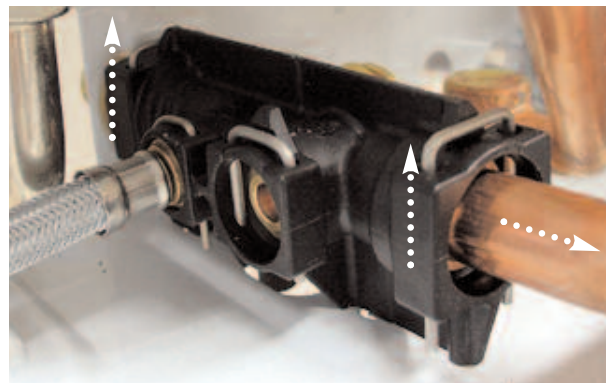

Fig. 18.82
2. Remove the two clips and remove the pipe (see Fig. 18.82);